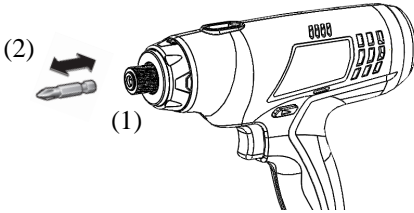

Fig. 8
1. Pull out the quick connect sleeve (1) (see Fig. 8).
2. Insert the bit (2) into the hex shank and release sleeve to retain the bit (see Fig. 8).